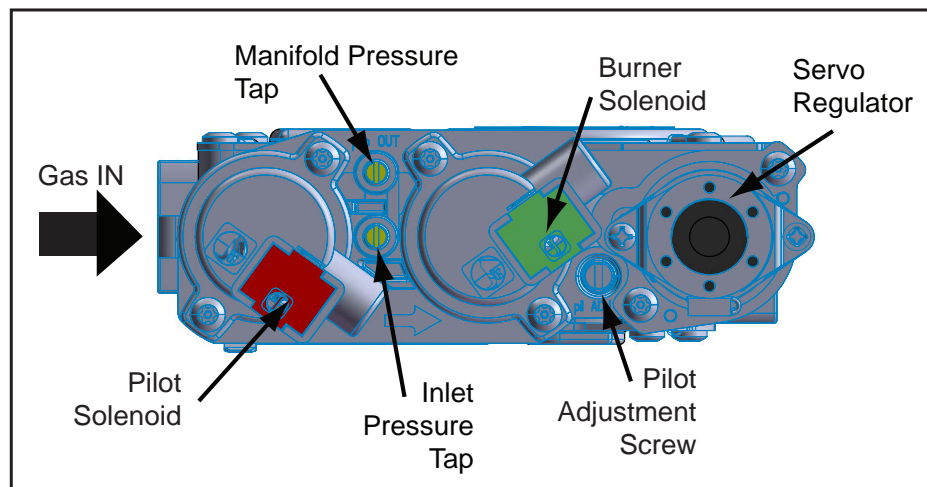

Figure 37: Valve Details.
The pressure taps are located on the front side of the valve (see Figure 37).
1. The adjustment screw can be reached through the front of the unit using a 10 inch long blade head screw driver (see Figure 37 for location on valve).